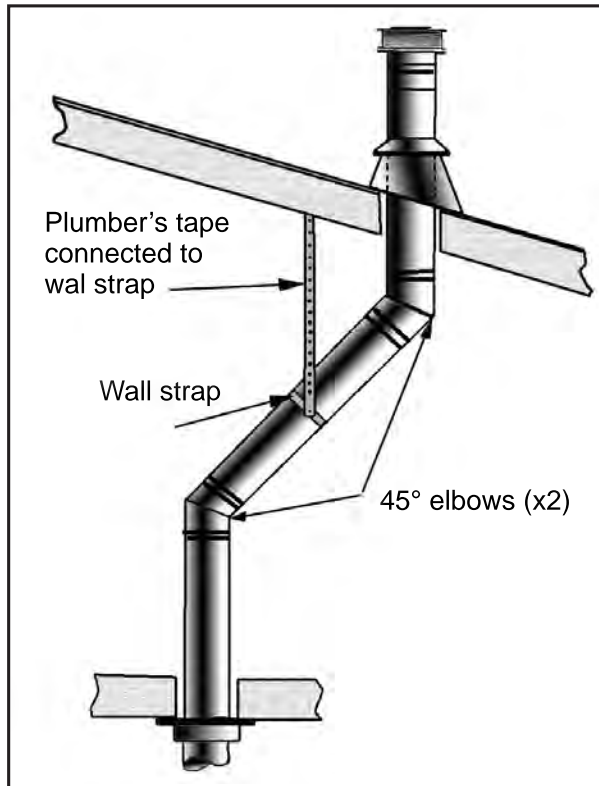
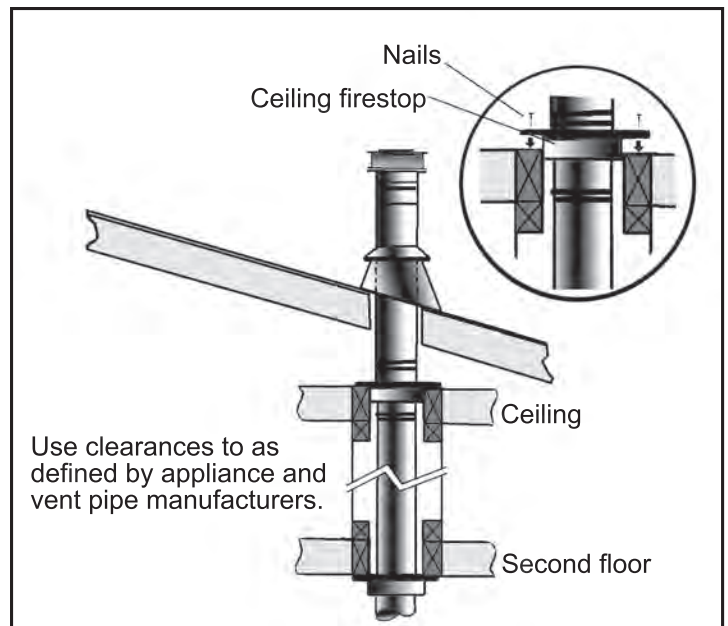

Figure 32: Use of Wall Straps.
Figure 33: Multi-Story Vent Pipe Installation.
- (1) If an offset is necessary in the attic to avoid obstructions, it is important to support the vent pipe every 3 feet (914 mm), to avoid excessive stress on the elbows, and possible separation. Wall straps are available for this purpose (see Figure 32).
- (2) When ever possible, use 45° degree elbows instead of 90° degree elbows. The 45° degree elbow offers less restriction to the flow of flue gases and intake air.
- (3) For multi story installations; a ceiling firestop is required at the second floor, and any subsequent floors (see Figure 33). The opening should be framed to 10" (254 mm) x 10" (254 mm) inside dimensions, in the same manner as shown in Figure 23.
- (4) Any occupied areas above the first floor, including closets and storage spaces, which the vertical vent passes through, must be enclosed. The enclosure may be framed and sheet-rocked with standard building materials. However consult the appliance manufactures installation instructions for the minimum allowable clearance between the outside of the vent pipe, and the combustibile surfaces of the enclosure. Do not fill any required air spaces with insulation.